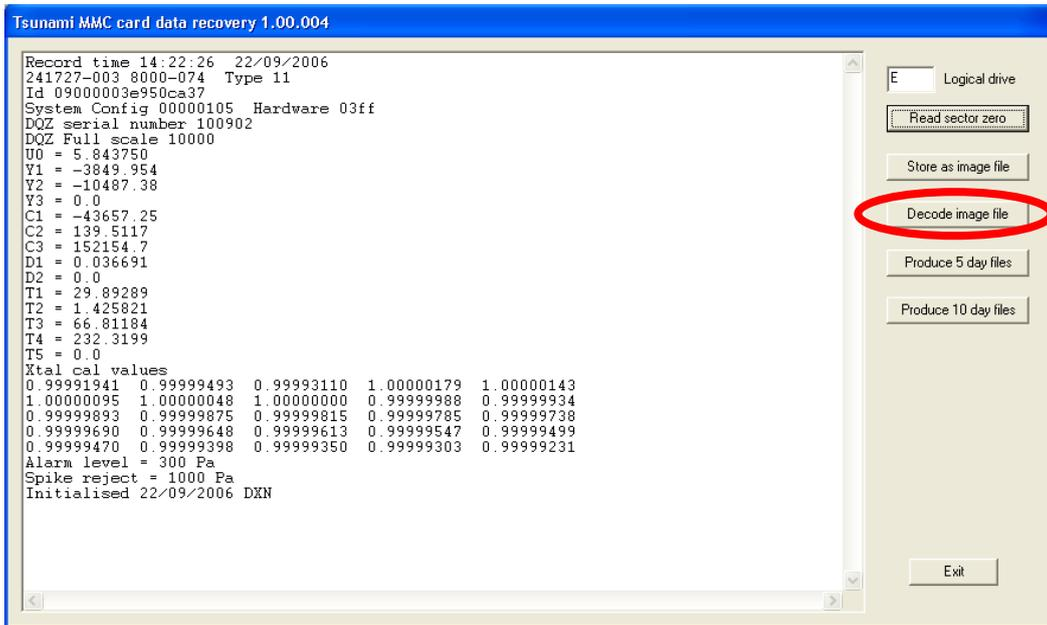

Figure 6 - MmcDataRecover.exe with Decode image file highlighted
- Click < **Decode image file** > (Figure 6).